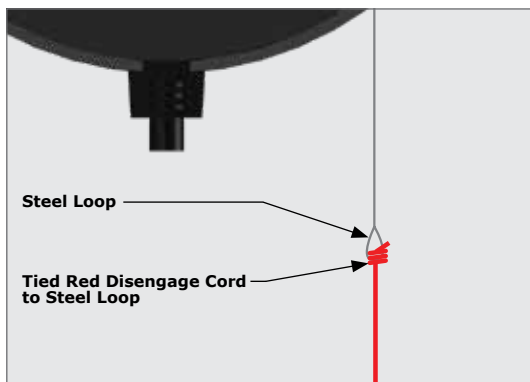

FIGURE 21
6. If not already disengaged, disengage the **RDO DIGITAL** Drive Unit by pulling once on the release lever (Figure 21) - the forked drive gear should now rotate freely.